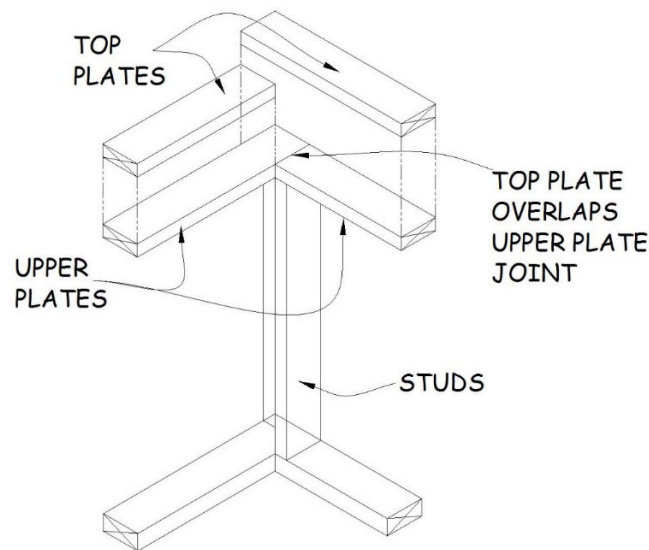

Figure 5-7. Interior Wall Top Plate Installation.
6. When nailing top plates, use three 3¼" collated nails or 16d nails across 2x6 plates and two 3¼" collated nails or 16d nails across 2x4 plates. Nail at each intersection of top plates and nail at each stud location. Note that the top plates at an intersection overlap the joints of the walls below (see Figure 5-7).